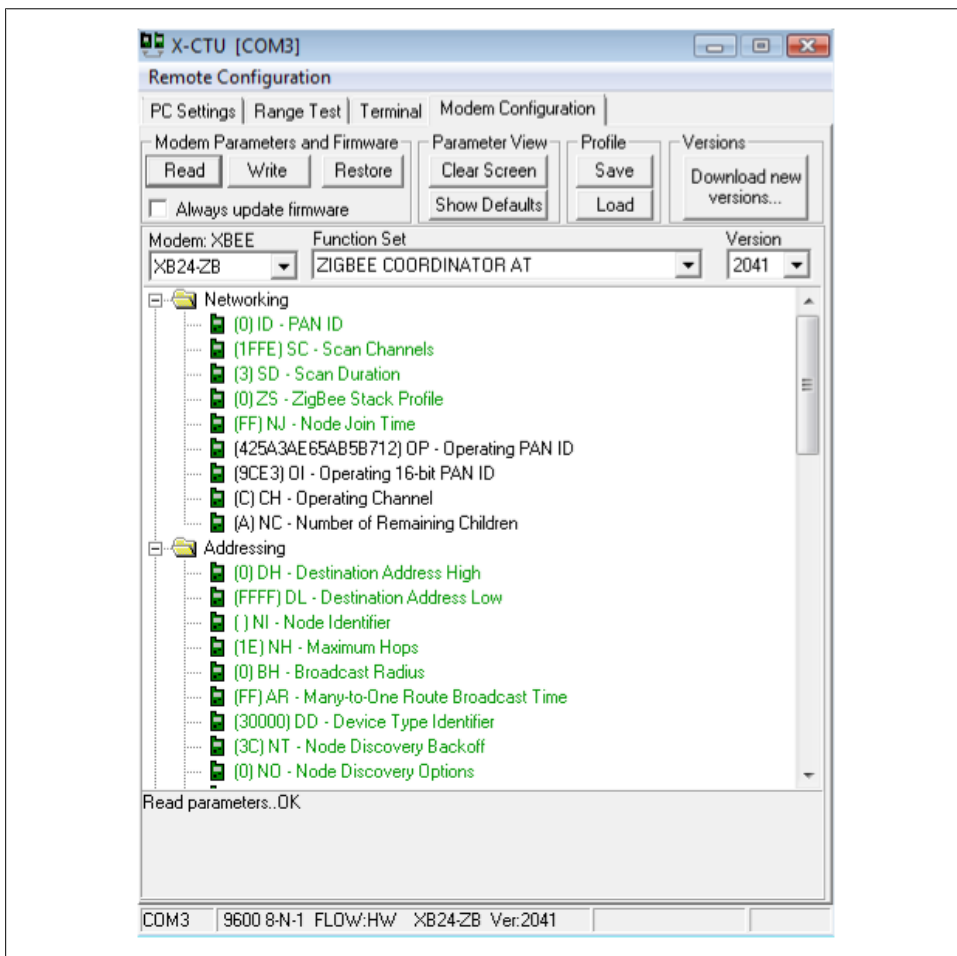

Figure 2-10. XBee coordinator AT configuration
Now that you’ve tested the XBee for basic communication, you’ll want to take a look at what firmware it’s sporting and how that firmware is currently configured. Switch to the Modem Configuration tab, then click on the Read button under Modem Parameters. If all goes well, this will populate the window below with all kinds of useful information, as shown in Figure 2-10.
1. The class of radio modem is shown under Modem: XBEE (Figure 2-10). For everything we do in the main part of this book, it should be XB24-ZB (or XBP24-ZB if you're using the higher-power PRO version of the radios). If it's set to something else, select either of these options from the menu.